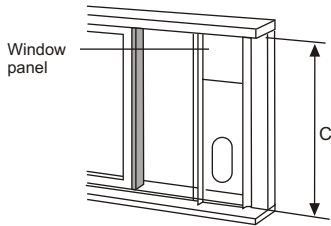

Fig.13
2. Attach the window slider kit to the window stool. Adjust the length of the window slider kit according to the width of window, shorten the adjustable window kit if the width of window is less than 26.5 (Type I) or 22.1 (Type II) inches. Open the window sash and place the window slider kit on the window stool. See Fig.13.